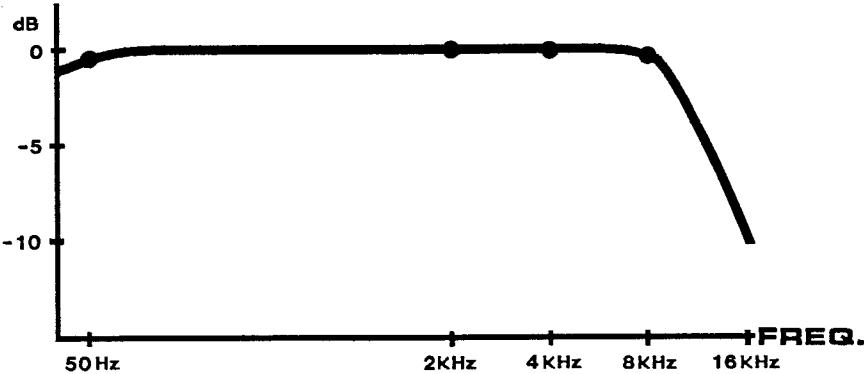

Figure 10. Checking Optimum High Frequency Response on a Real Time Analyzer With a Focus, "P Tone" or Pink Noise Source: (Measured at Preamp TP-L)
(H) Connect a REAL TIME ANALYZER to the test jack "TP L" on the PREAMP. Run a FOCUS, "P TONE" or PINK NOISE film and adjust the focus of the soundhead optics for the best high frequency response on the analyzer (*Figure 10*). At the same time, adjust the azimuth for the thinnest display on the oscilloscope (*Figure 11*). The focus and azimuth adjustments interact, so it will be necessary to keep